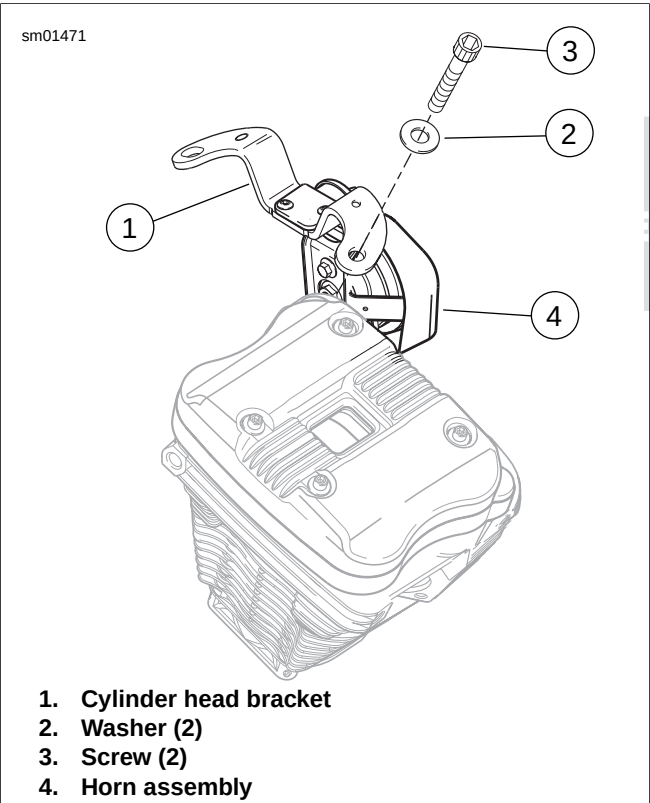

Figure 3-14. Horn and Cylinder Head Bracket (Models With Side Mounted Horn Only)
15. Models with side mounted horn: unplug wiring harness connectors from horn. See Figure 3-14. Remove two screws (3) and washers (2). Remove cylinder head bracket (1) with horn (4) from cylinder heads as a unit.
- d. Throttle Position (TP) sensor connector [88].